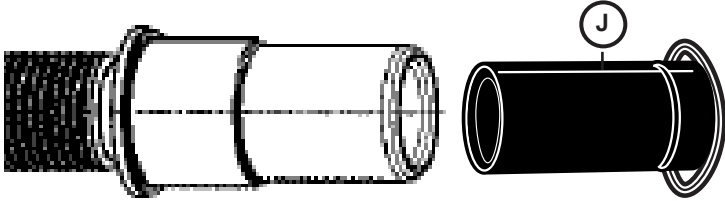

Figure 13
2. Obtain the Rubber Drain Hose Adaptor (J) spring clamp from the Dishwasher Installation Kit (**do not substitute**).
3. Insert the dishwasher drain hose into the **end of the drain hose** (see **Figure 13.**) Be sure to fully insert the drain hose.